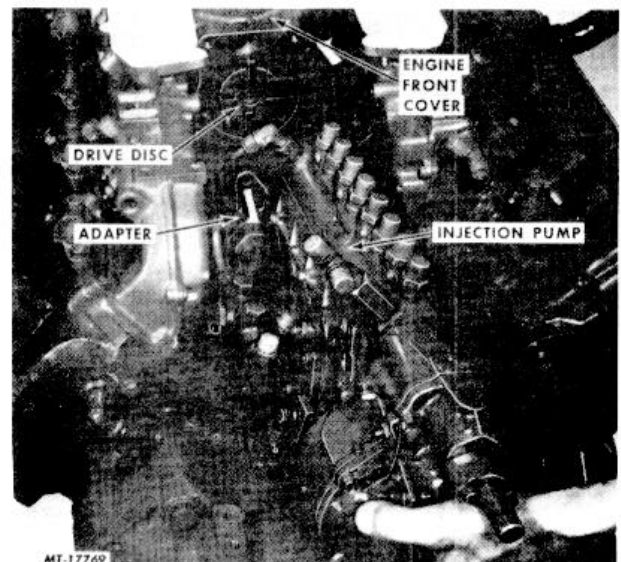

Fig. 36 Removing Injection Pump
29. Remove injection pump and gasket from front cover. Also, remove drive disc from injection pump or drive flange (Figure 36).